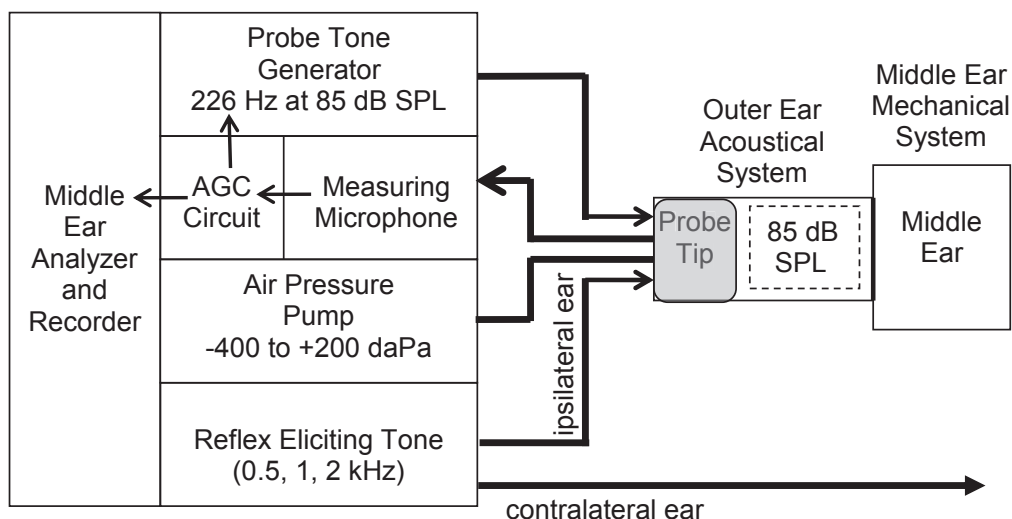

Figure 7–2. Block diagram showing the key components of a middle ear analyzer. (From Kramer & Brown, 2019, p. 215)
different and can vary from manufacturer to manufacturer. Just like an audiometer, this piece of equipment basically has all the same controls, parts, and measurements. Figure 7–1 shows examples of different middle ear analyzers. Figure 7–2 shows the basic immittance probe and components for performing tympanometry. Be familiar with what those standard features and terms are for this equipment in order to “run” tympanometry for your practical exam. If you are not required to bring your own middle ear analyzer, you should be able
Figure 7–1. A few examples of middle ear analyzers. A. TympStar Pro from Grason–Stadler. B. Titan from Interacoustics. C. Zodiac from Madsen. (From Kramer & Brown, 2019, p. 214)
Let us first review how sound waves travel via air conduction. Sound collects in the outer ear and travels down the ear canal to the tympanic membrane (TM), which is considered *acoustic energy*. Those sound waves cause the tympanic membrane to vibrate and send those vibrations through the ossicular chain to the oval window, which is known as *mechanical energy*. A schematic of this is summarized in Figure 7–3. When the ossicles vibrate the oval window, it delivers the vibration to the fluid-filled cochlea via *hydromechanical energy*, which then causes the hair cells of the inner ear to cre-
Figure 7–3. Overview of the transduction process from acoustic energy to hydromechanical, whereby the acoustic energy that enters the ear canal is converted to mechanical energy in the middle ear and then to hydromechanical energy in the inner ear. See Table 7–1 for further explanation. (From Kramer & Brown, 2019, p. 84)